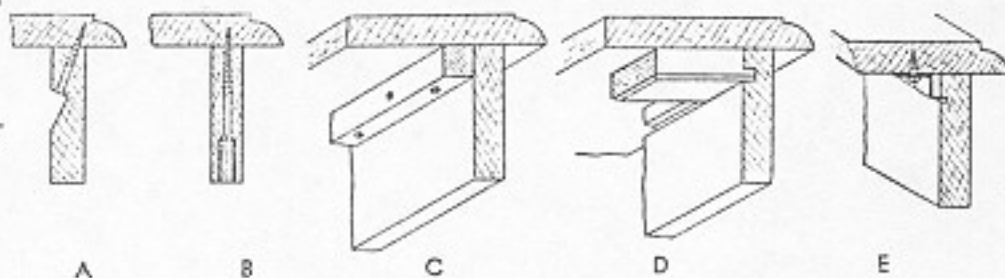

Fig. 315. Methods of fastening a table top.
1. Table-top fasteners are short, flat pieces of steel, bent in the shape of a "Z." One end of the fastener is inserted in a groove previously cut with a circular saw on the inside surface of the rails. The other end is fastened to the table top with a single screw (E, Fig. 315).
2. Wooden blocks are used in the same way as the metal fasteners. Their rabbeted ends are inserted in a groove previously cut on the inside surface of the rails. They are fastened to the underside of the top with glue (D, Fig. 315).
3. A common way to fasten table tops is by means of wooden cleats about $\frac{3}{4}$ in. square. Holes for screws are bored and countersunk from two edges of the cleats at right angles to each other. The cleats then are screwed to the inside surface of the rails about $\frac{1}{16}$ in. below their upper edge. The table top is placed face down on a bench. The frame is placed on the top, and its position is located by measuring the distance from the rails to the edge of the top. Screws then are driven into the top through the holes bored in the cleats (C, Fig. 315).
to be used. The remainder of the hole is bored with a gimlet bit or a twist bit. The frame is placed on the underside of the top as described in step 3, and the screws are driven through the rails (B, Fig. 315). If desired, the holes may be plugged as shown in Figure 292.
5. Slanting holes also may be bored through the upper part of the rails (A, Fig. 315). When screws are inserted in this way, their heads should not project beyond the inside face of the rails.